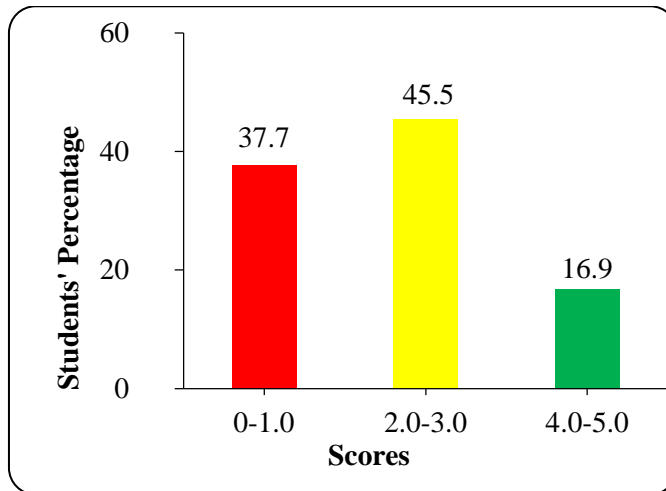

Figure 2: *Students' Performance in Question 2*
The question consisted of five (5) items (i) to (v) which were set from the topic of Engineering Materials. The students were required to match the properties of engineering materials in List A with the type of material in List B by writing a letter of the correct response to the corresponding item number. The question was attempted by 451 (100%) students, of whom 170 (37.7%) students scored from 0 to 1 mark, 205 (45.5%) scored from 2 to 3 marks and 76 (16.9%) scored from 4 to 5 marks. Generally, the performance for this question was average considering that 281 (62.4%) students scored from 2 to 5 marks. Figure 2 represents this performance.